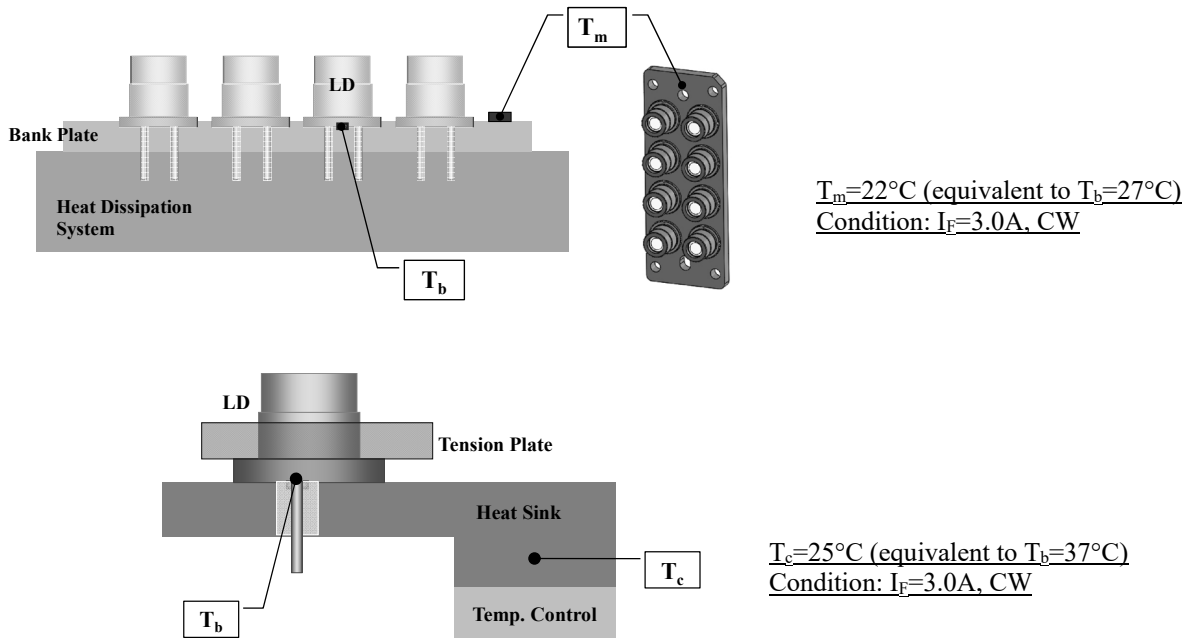

Fig.1 Schematic diagram of measurement system
*1) Refer to Fig.1
(3) Initial Electrical/Optical Characteristics of LD-Bank